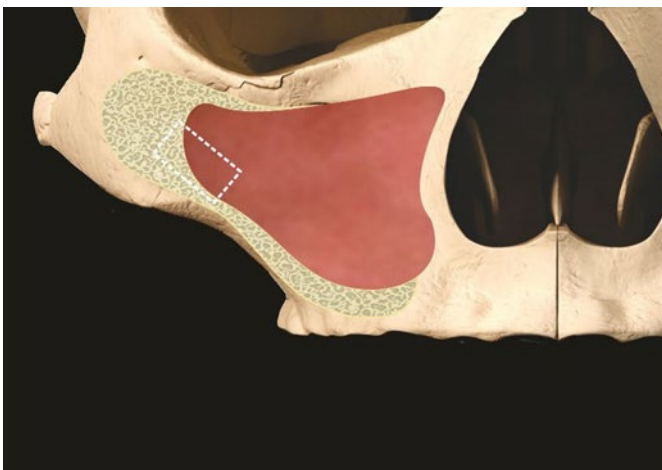

Figure 13
1. A small sinus window is cut on the lateral aspect of the maxillary sinus and the block of the bone is removed (Figure 13). The lining of the sinus is reflected, attempting to keep it intact. Thorough reflection of the lining is essential.